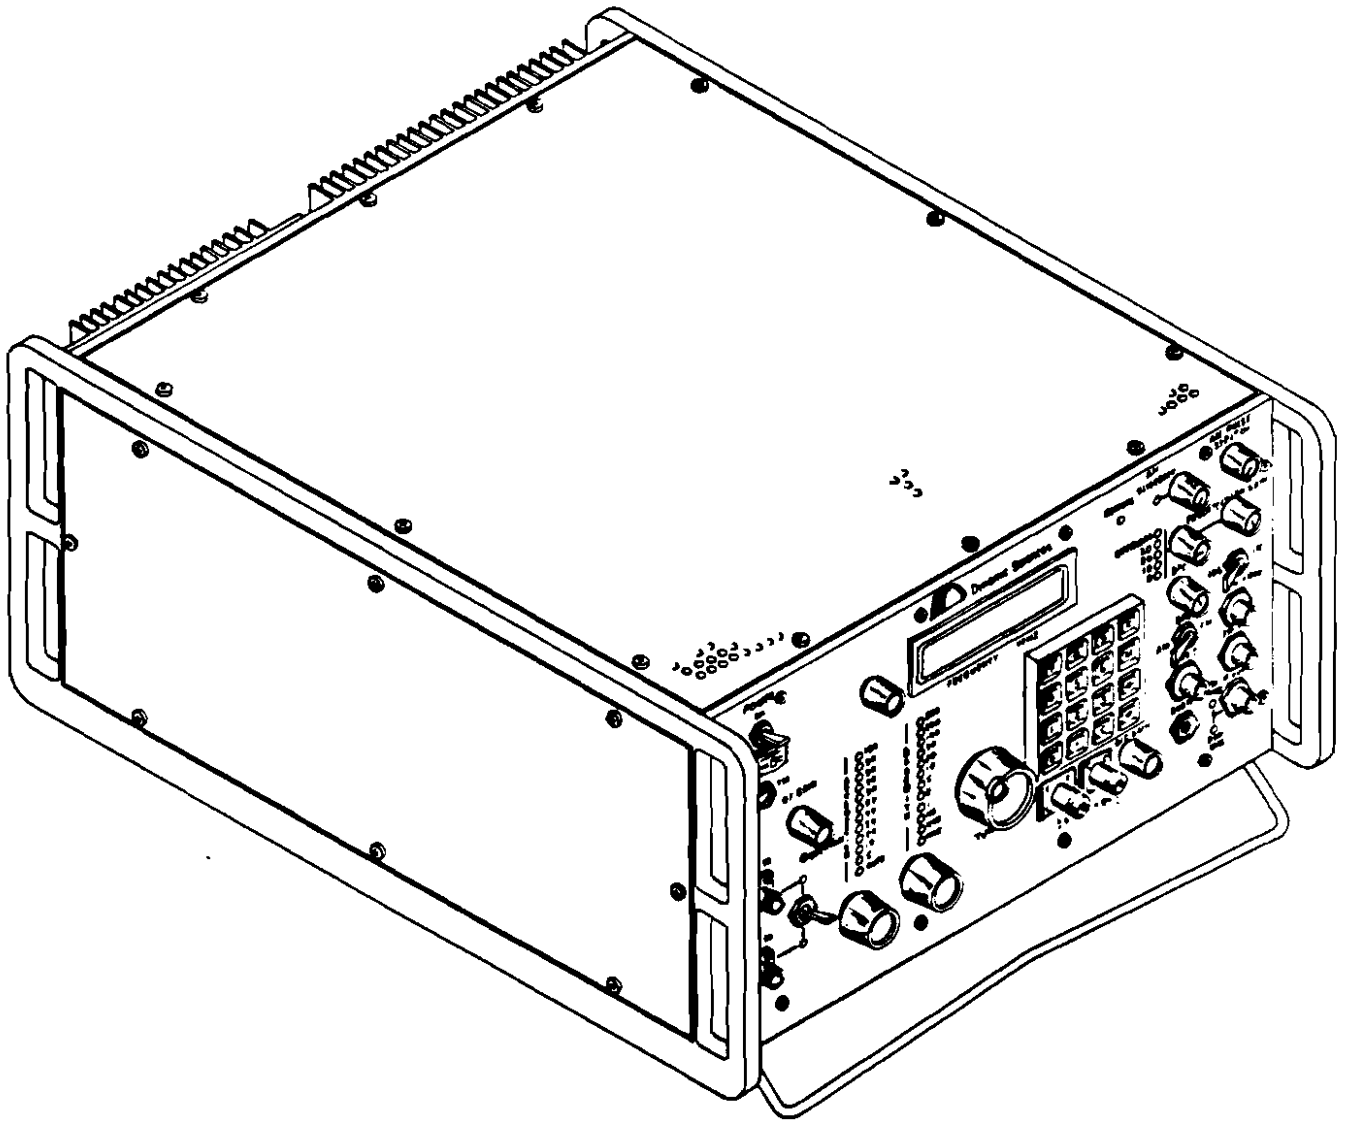

FIGURE 1-1 MODEL R-1250 WIDE RANGE RECEIVER
The model R-1250, as shown in figure 1-1, is a solid-state radio frequency receiver that provides a means of detecting and measuring signals associated with the requirements specified for electromagnetic analysis, TEMPEST, spectrum analysis, and frequency surveillance. The receiver circuits are enclosed in a rugged compact chassis, and process RF signals in the form of a continuous wave (cw) or modulated carriers, both amplitude modulated (AM), and frequency modulated (FM), within the frequency range of 100 Hertz to 1.0 Gigahertz. Two modes of the receiver operation are incorporated into the instrument, a manual mode and a remote mode that uses computer control for tuning and function selection. The design of the model R-1250 receiver meets or exceeds the requirements as outlined in NACSIM specification 5100A.